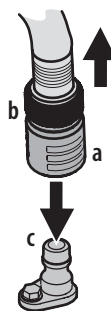

Figure 21
3. Pull back the lock collar (a) of the nozzle adapter (b) and push the nozzle adapter onto the deck wash nozzle (c). Release the lock collar to lock the nozzle adapter on the deck wash nozzle. See Figure 21.